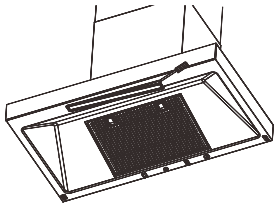

Fig.16
- Kick off the LED lamps by using the flat screw driver(Fig 16).